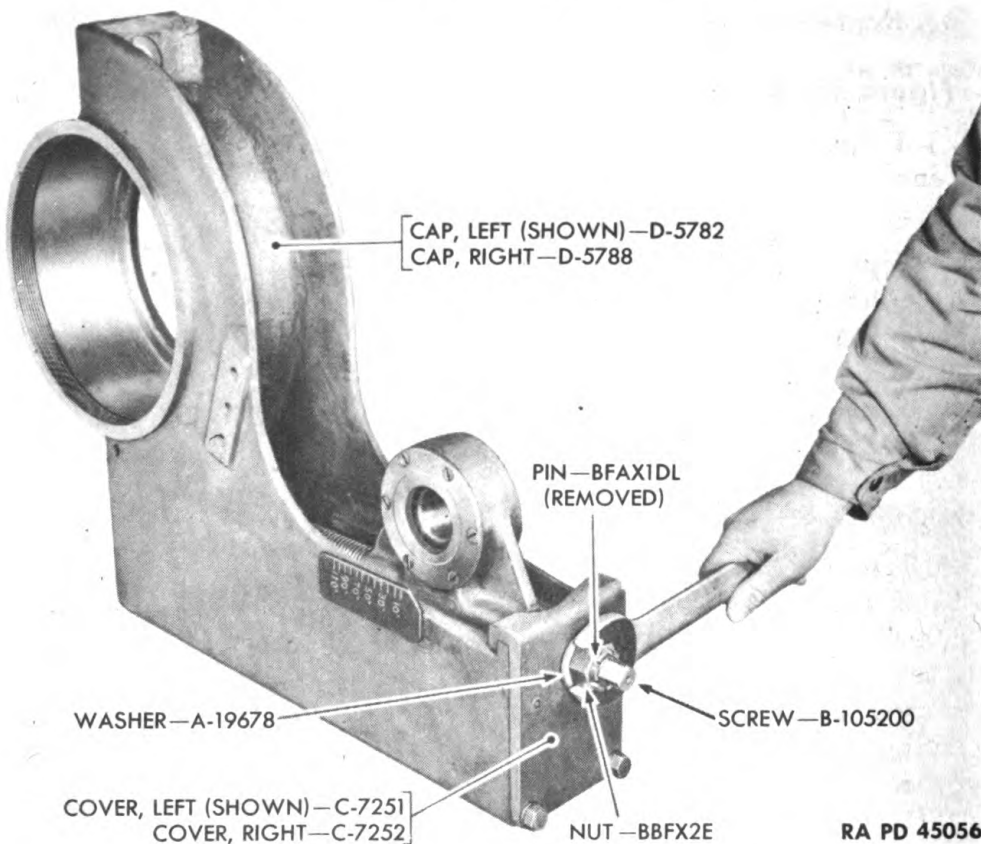

Figure 90—Removing Equilibrator Guide Adjusting Screw Nut
(2) Remove cotter pin BFAX1DL, nut BBFX2E, and washer A19678 from screw B105200 (fig. 90).
(3) Slide the screw and guide back in bearing cap so screw is out of cover C7251. Then remove screws BCAX1ED and washers BECX1M, and lift cover off.
(4) Slide equilibrator guide assembly from trunnion bearing cap.
(3) Push the equilibrator guide and adjusting screw assembly outward until the adjusting screw protrudes far enough to install the adjusting screw washer, nut and cotter pin. Install washer and nut. Secure with $\frac{1}{8}$ - x $1\frac{3}{4}$ -inch split cotter pin (fig. 90).